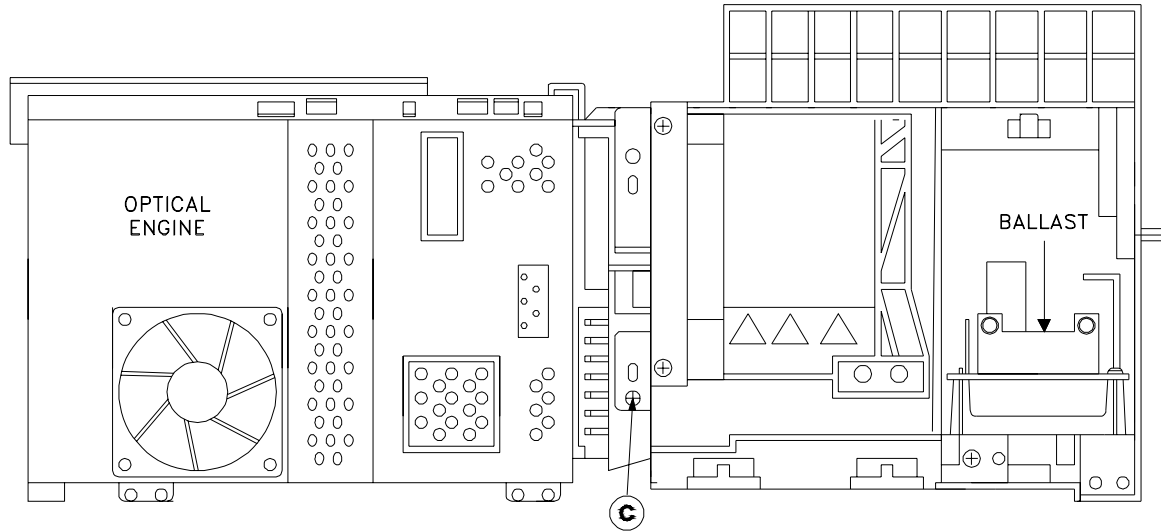

Figure 4: Lower Duct rear Mounting Screw
- 1) Remove the 2 screws (C) one in front and one in the rear of the lower duct, refer to *Figures 4 and 5*.